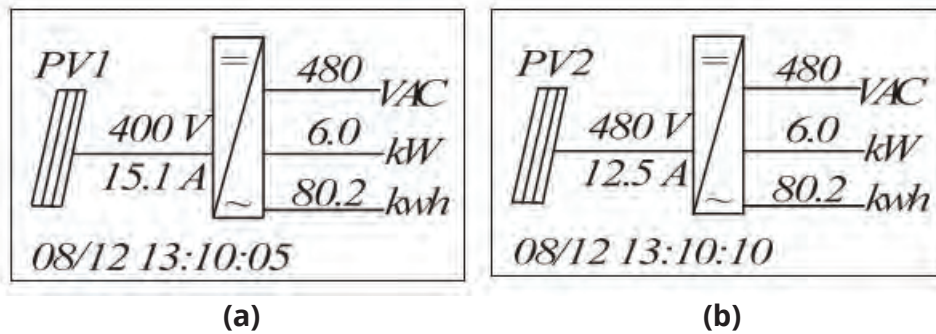

Figure 6-2 Default indication interface for manual operation
(2) Normal operation mode: Default indication interface for normal operation is shown in Figure 6-2 (a) and 6-2 (b). The switching time between (a) and (b) is 5 seconds.